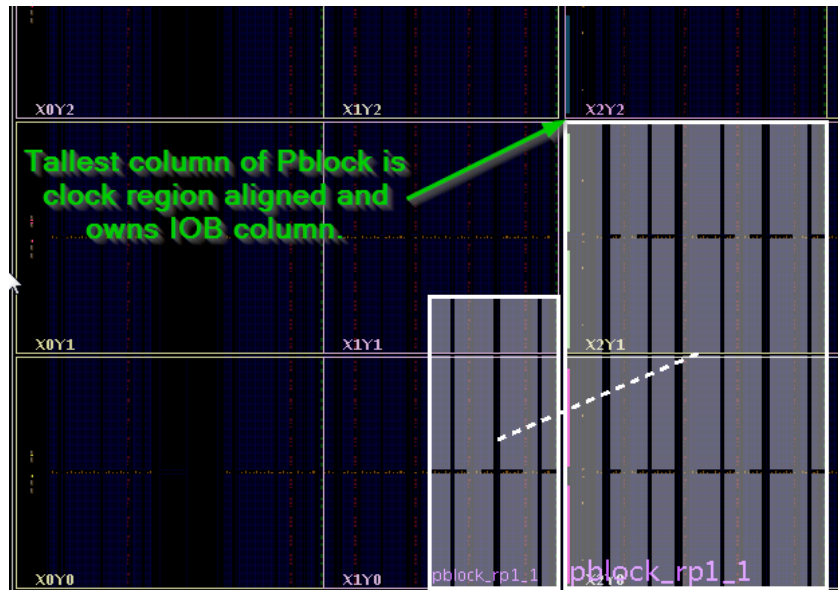

Figure 6-10: Tallest Column of Pblock Clock Region Aligned
- Xilinx recommends using rectangular Pblock shapes. Non-rectangular shapes are also supported for RPs with clocking logic, as long as the tallest column of the Pblock is aligned vertically and horizontally with the clock region. The tallest column of the RP Pblock must also range the IOB, and this range must cover the full height of all the rectangles that define the RP Pblock, as shown in Figure 6-10, page 83. In other words, this vertical column of IOB ranges must be able to access all rows of the Pblock. Pblock shapes like a sideways "L" are not supported unless the vertical section of the shaped includes the IOB range.